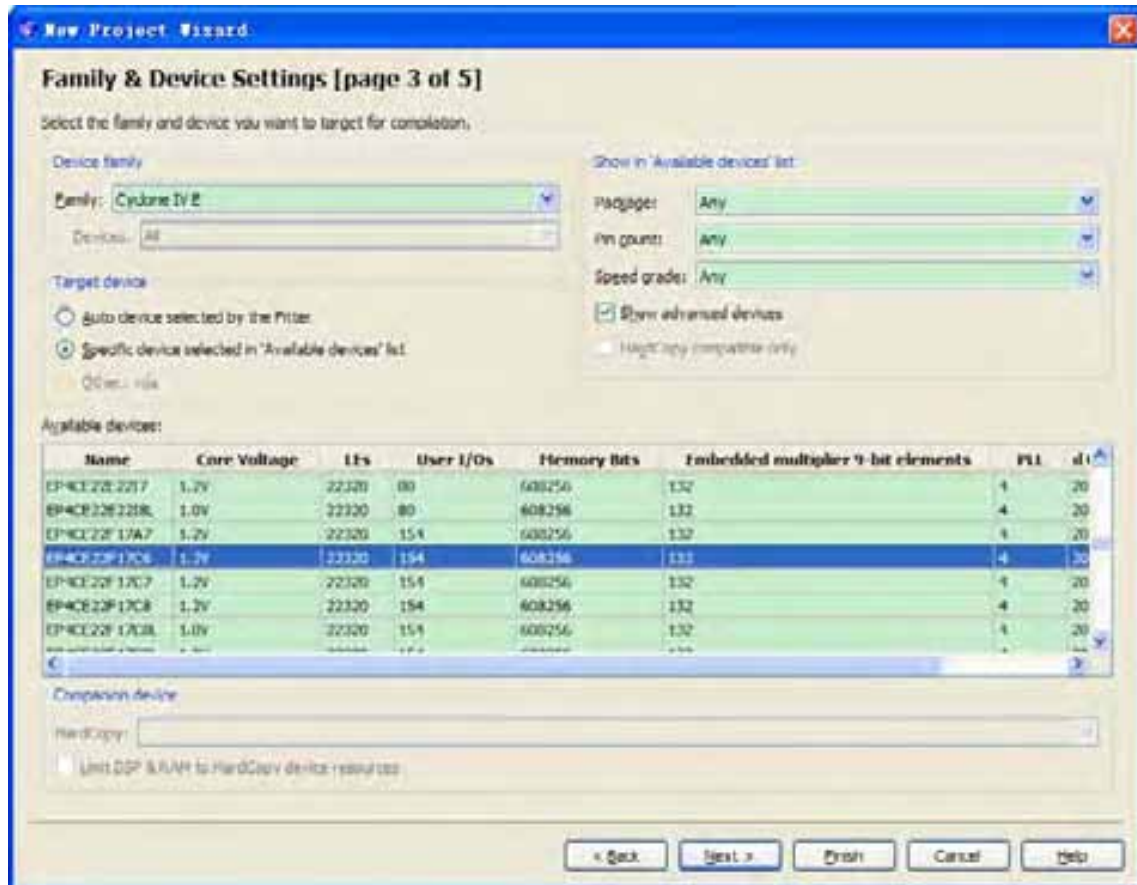

Figure 6-10 Specify the Device Example
- e. In the next dialog box, you will assign a specific FPGA device to the design. Select the **EP4CE22F17C6** device, as it is the FPGA on the DE0-Nano, as shown in Figure 6-10.